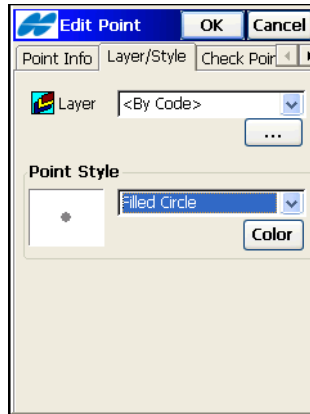

Figure 6-4. Set Layer and Point Style
4. On the *Layer/Style* tab (see Figure 6-4 on page 6-4), select the layer that the point will be stored to and the plotting properties to represent the point on the selected layer. (If needed, tap the **List**  button to edit layers.)